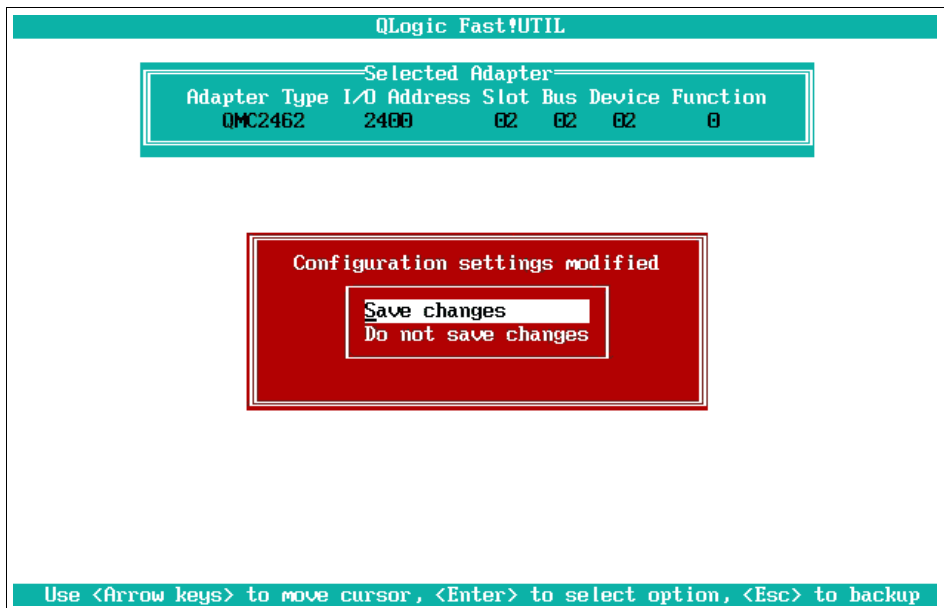

Figure 9-12 QLogic Fast!UTIL window
10. Press Esc and you will see a window similar to Figure 9-12.